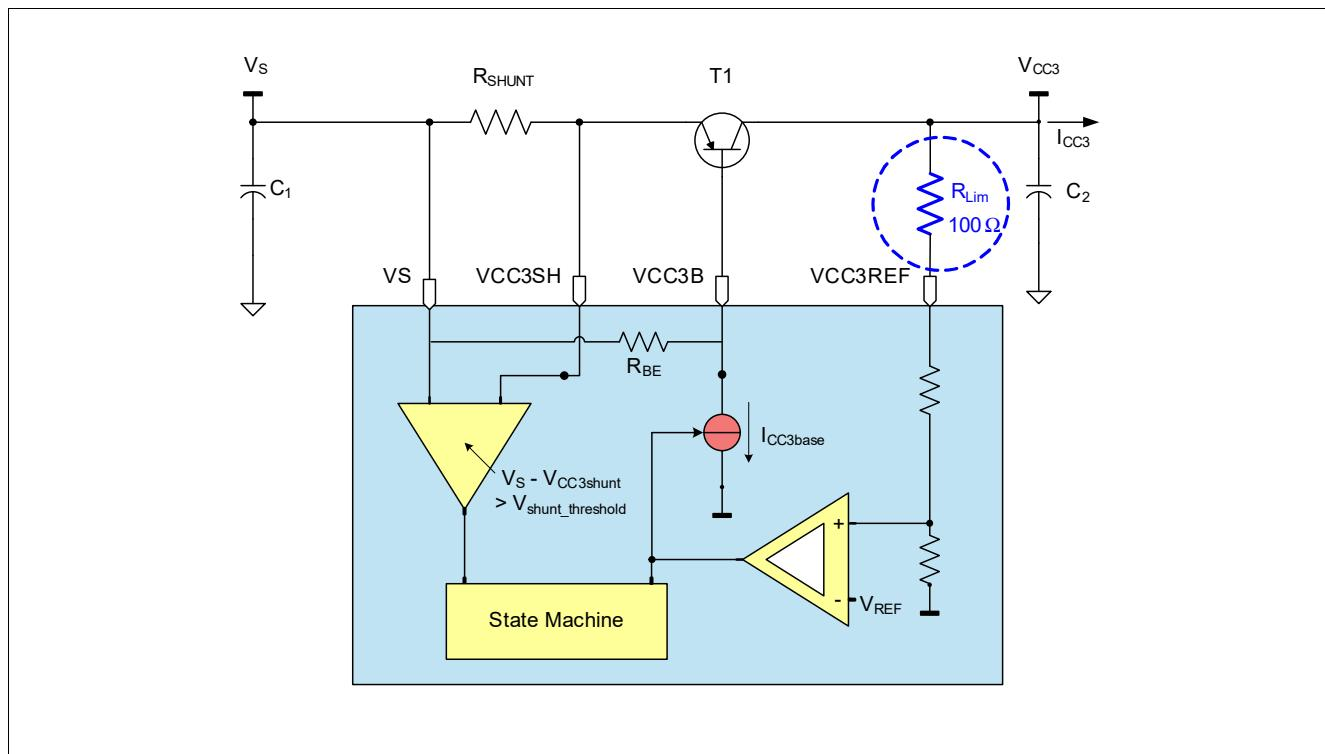

Figure 19 Protecting the VCC3 against inductive short circuits when configured as an independent voltage regulator for off-board supply
3. If the VCC3 output voltage is supplying external off-board loads, the application must consider the series resonance circuit built by cable inductance and decoupling capacitor at the load. Sufficient damping must be provided (e.g. a 1000Ohm resistor between the PNP collector and VCC3REF with 10uF capacitor on collector - see also Figure 19).